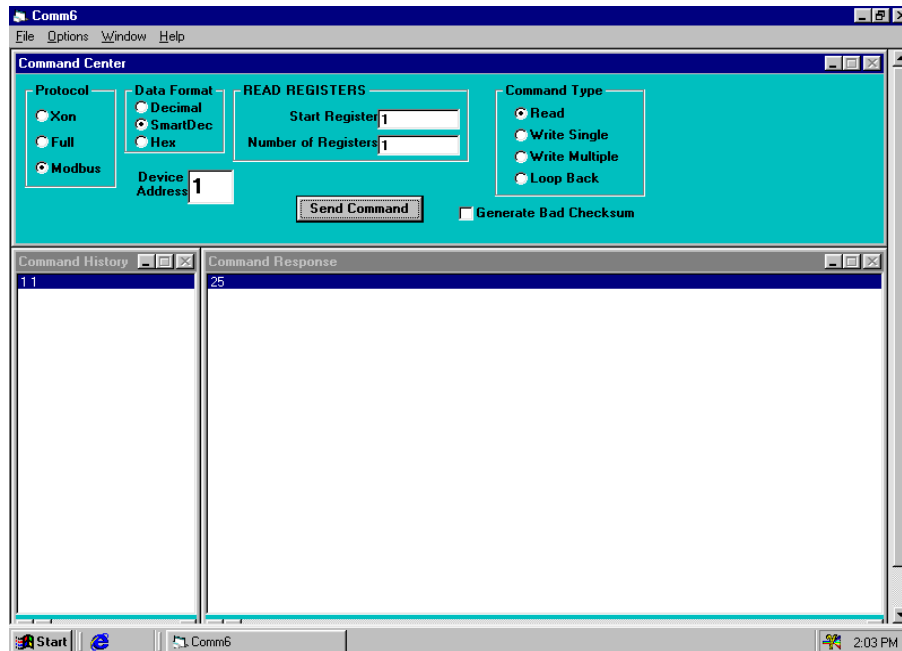

Figure 1: COMM6 Command Window.
- 10.2.1 Check that the software is properly configured. Under the File menu, click the Port Settings option. The baud rate should be '9600'. The port should be '1'. In the Command Center (see Figure 1), The Device Address should be set to '1', and the **Modbus** Protocol box should be selected.